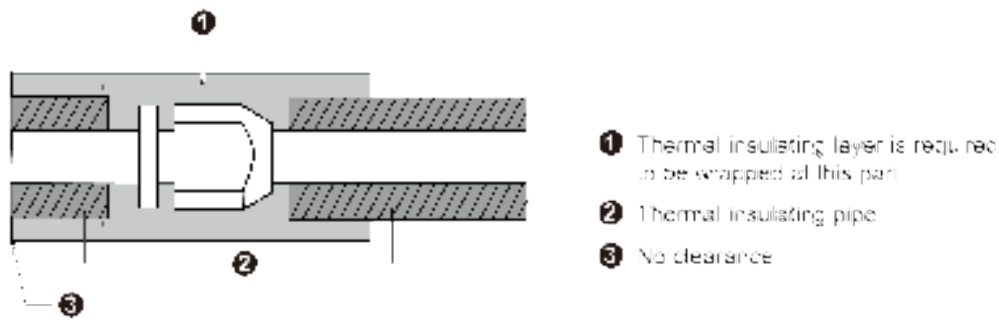

Fig.4.18
- 2) Joints of indoor and outdoor unit should be wrapped with insulating material and leave no gap between pipe and wall. See Fig.4.18.